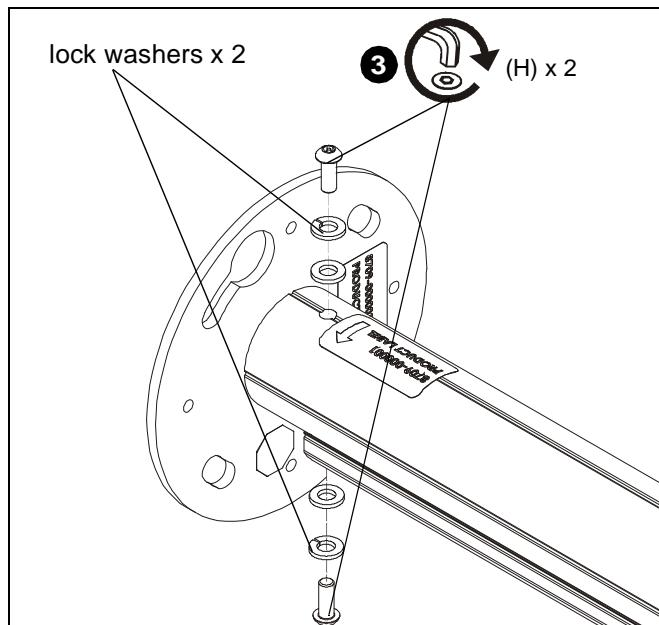

Figure 3
3. Use two M6 x 16mm security screws (H) and washers removed in Step 2 to secure KITE Series mount column to adapter plate. (See Figure 3)
IMPORTANT ! : Washers must be reinstalled in the same order with the lock washers being closest to the screw heads. (See Figure 3)